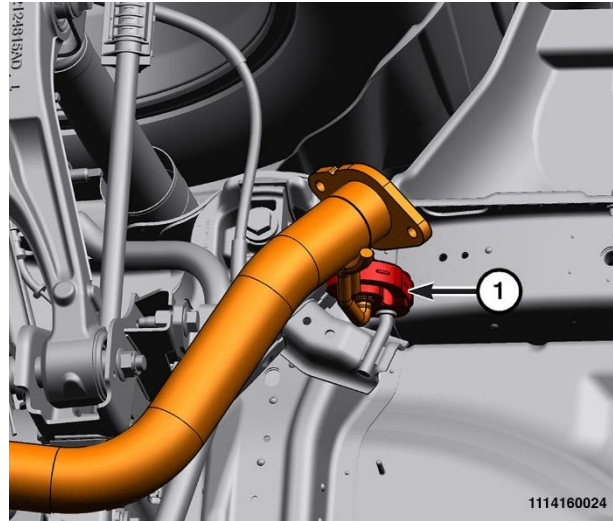

Figure 5 – Left Exhaust Isolator
9. **Dual Exhaust ONLY:** Remove the left rear exhaust isolator (1) (Figure 5).